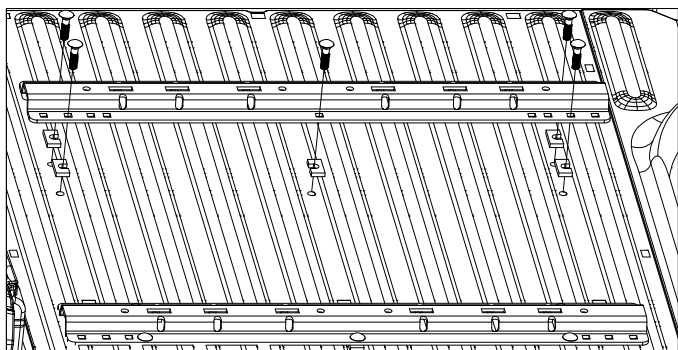

Figure C3: View looking into truck bed from rear of truck.
- 4. The forward mounting rail.** Re-position the forward mounting rail over the drilled 9/16" holes in the bed. Install five 1/2" X 2" carriage bolts through the five drilled positions, as shown in figure C3. Place a U-shaped washer between the bed and the mounting rail at the five drilled positions.